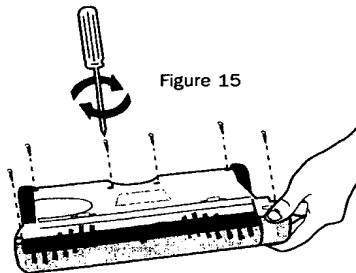

Figure 15
1. Separate the Main Unit (1) housing by removing the screws located at the bottom of the Main Unit (fig.15). NEVER open the main unit housing except to dispose the battery when required.